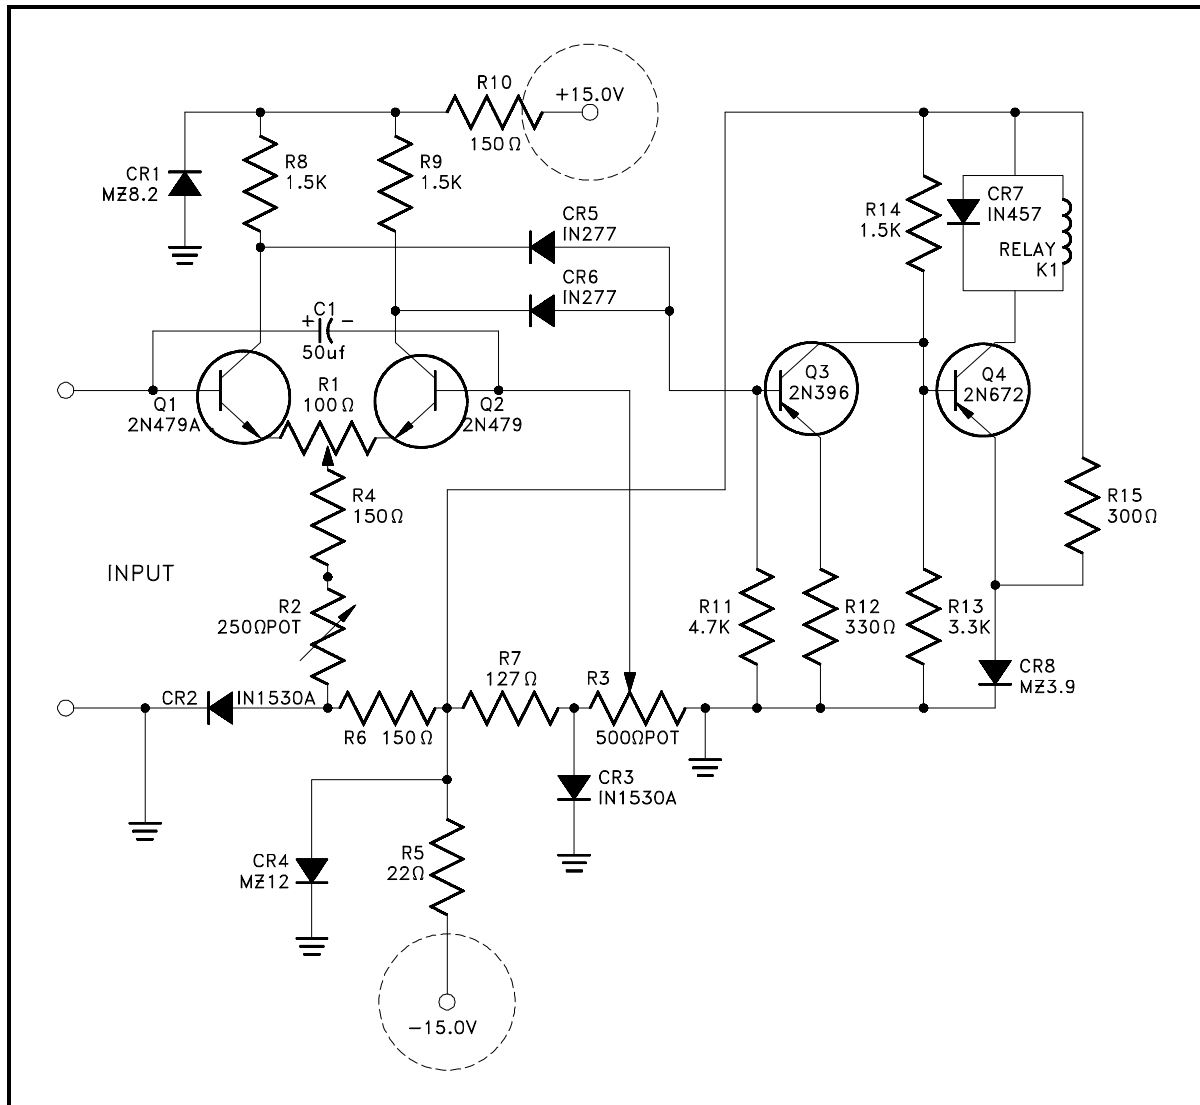

Figure 6 Schematic Showing Power Supply Connections
Generally, the electrical power source is indicated at the point where it enters a particular schematic. These values are stated numerically with polarity assigned (+15 volts, -15 volts). These markings are usually at the top and bottom of schematics, but not always. In the example shown in Figure 6, power is shown at both the top and bottom in a circuit using two power sources. Unless specified as an Alternating Current (AC) power source, the voltages can normally be assumed to be Direct Current (DC).